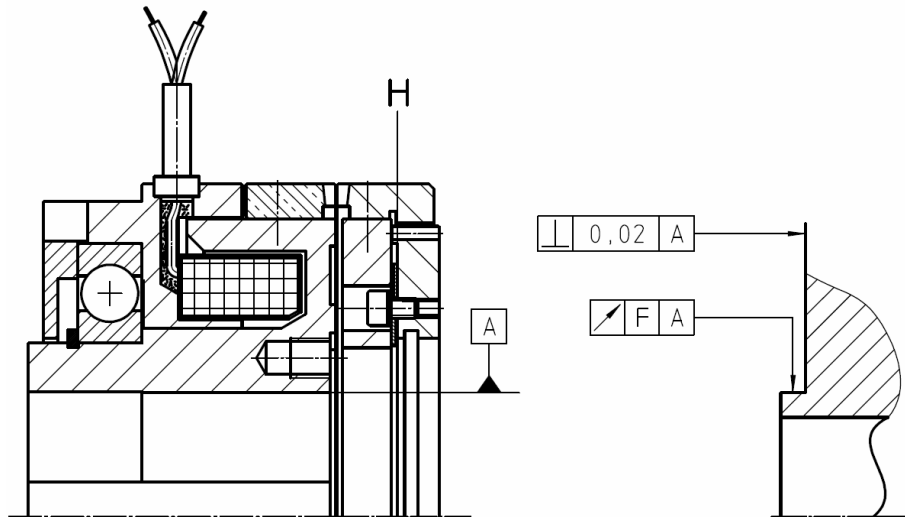

Figure 5: face "H" of the centering part
i	Make sure that the fixing pin and the ends of the threads do not protrude out of the front face " H " of the centering part (see fig. 5).
- The spacer sleeve (for setting the idle speed air gap) underneath the armature must be made of an antimagnetic material (see fig. 5).
Make sure that the fixing pin and the ends of the threads do not protrude out of the front face " H " of the centering part (see fig. 5).